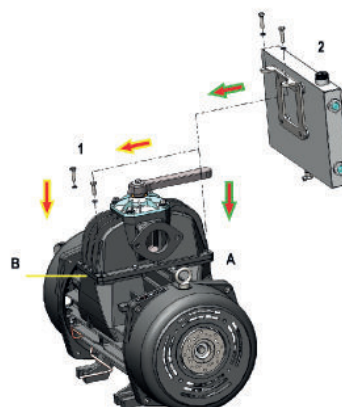

Fig. H.7 - Phase 0030
- Unscrew the two M8x30 screws (**pos.1 Fig. H.7**) (spanner ch13) from the collector side (**pos.A Fig. H.7**) and reassemble them on the opposite side of the collector (**pos.B Fig. H.7**).
- Reposition the oil tank on the collector (**pos.A Fig. H.7**).
- Tighten the M8x35 screws (**pos.2 Fig. H.7**) (spanner ch13).